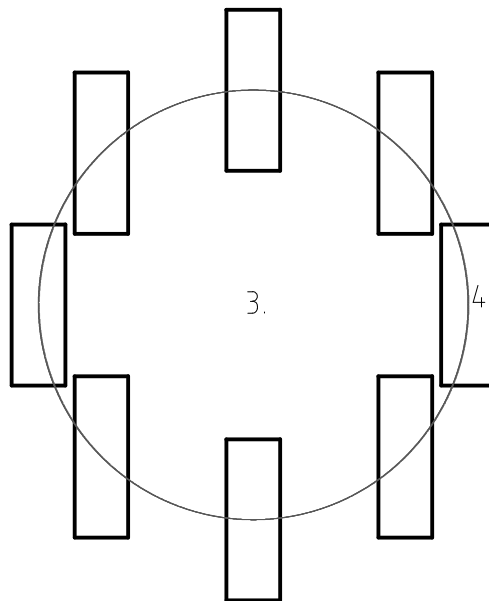

Figure 58: Rotate around two centers, an absolute center (3.) and a relative center (4.).
4. Set the center of the rotation for the individual objects. The second center is rotated together with the entities around the first center (Figure 58).